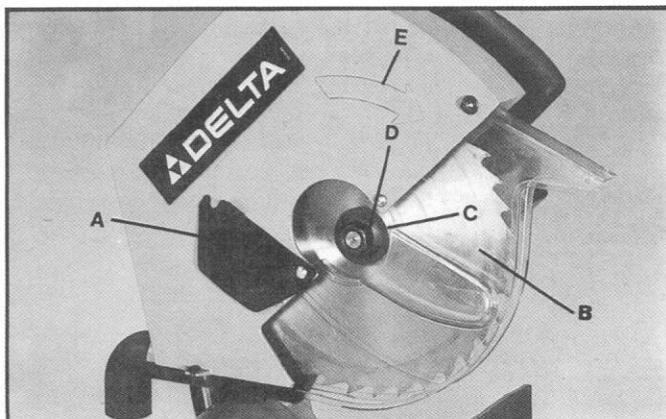

Fig. 6
2. Rotate arbor shaft access cover (A), to the up position as shown in Fig. 6.
3. Assemble saw blade (B), flange (C), and nut (D) to the arbor shaft, as shown in Fig. 6. **IMPORTANT: MAKE CERTAIN TEETH OF SAW BLADE (B) ARE POINTING IN THE SAME DIRECTION AS THE DIRECTIONAL ARROW (E) ON THE SAW GUARD.**
4. **NOTE:** Arbor nut (D) Fig. 6, has a left hand thread. Turn the arbor nut (D) counterclockwise by hand as far as possible.